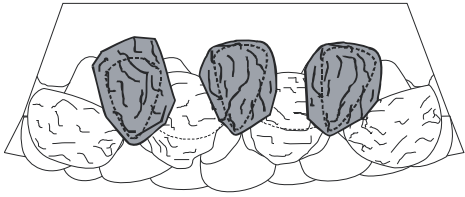

Figure 25
5. Bridge the **three Large Triangular coals** between the rear matrix and the rounded coals such that the points of the triangular shapes on the underside of the coals are facing forward. (See **Figure 25**).